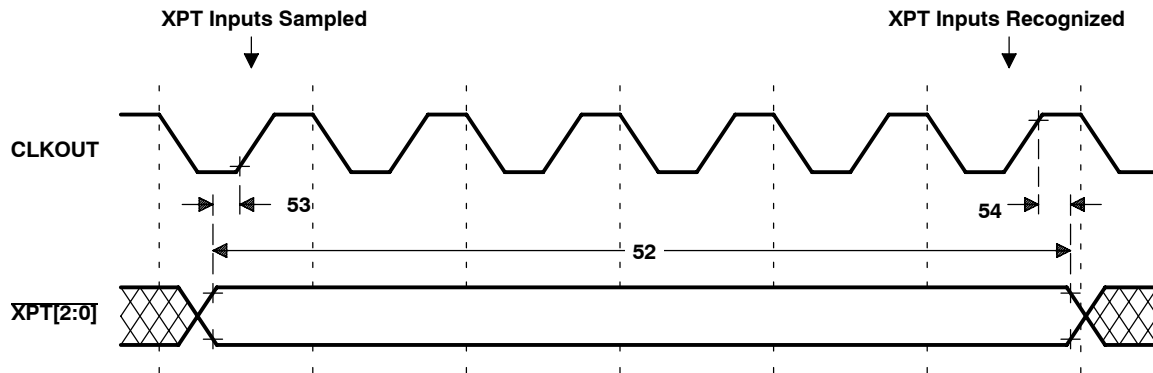
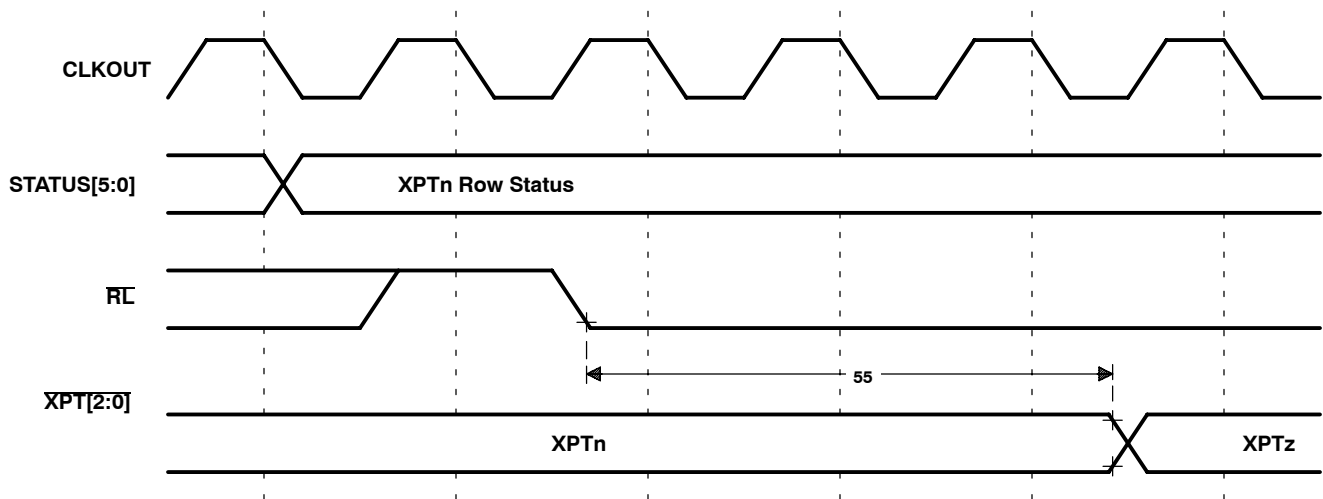

Figure 118. XPT Input Timing - XPT Recognition
Figure 119. XPT Input Timing - XPT Service
**XPT input timing (see Figure 118 and Figure 119)**